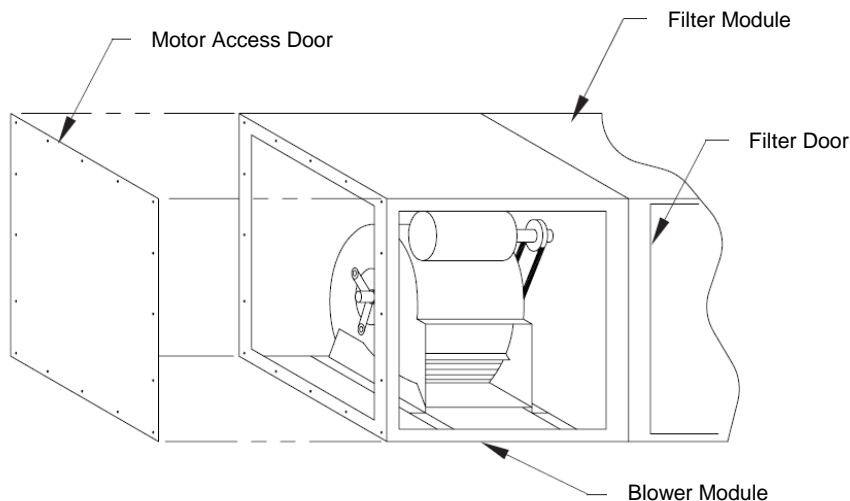
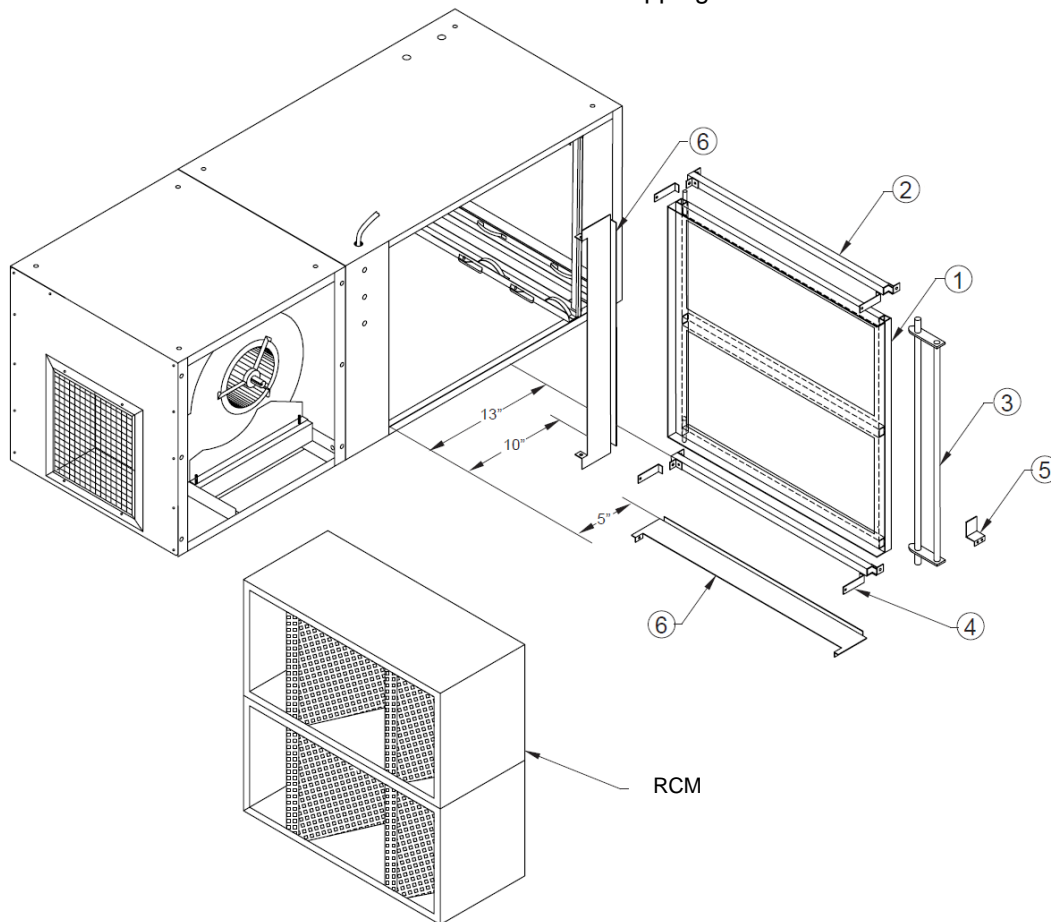

FIG. 3
FIG. 4
4. Rotate the motor/blower module 90° as shown in FIG. 3.
On units with optional HEPA or charcoal filters, an adjustable filter track kit is used to complete the seal of the filters to the filter stop (FIG. 4 & FIG. 5). If the unit was ordered with either a HEPA or charcoal filter, the adjustable filter track kit is included with the unit. If a HEPA or charcoal filter is ordered as an after-market item, the adjustable filter track kit should be ordered as well. Order part number 38036-01.
On units with optional HEPA or charcoal filters, an adjustable filter track kit is used to complete the seal of the filters to the filter stop (FIG. 3 & FIG. 4). If the unit was ordered with either a HEPA or charcoal filter, the adjustable filter track kit is included with the unit. If a HEPA or charcoal filter is ordered as an after-market item, the adjustable filter track kit should be ordered as well. Order part number 38036-01.